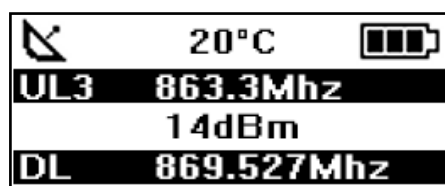

Figure 9 : Downlink
- 1 reception windows after a 20 secondes times break (Figure 9)